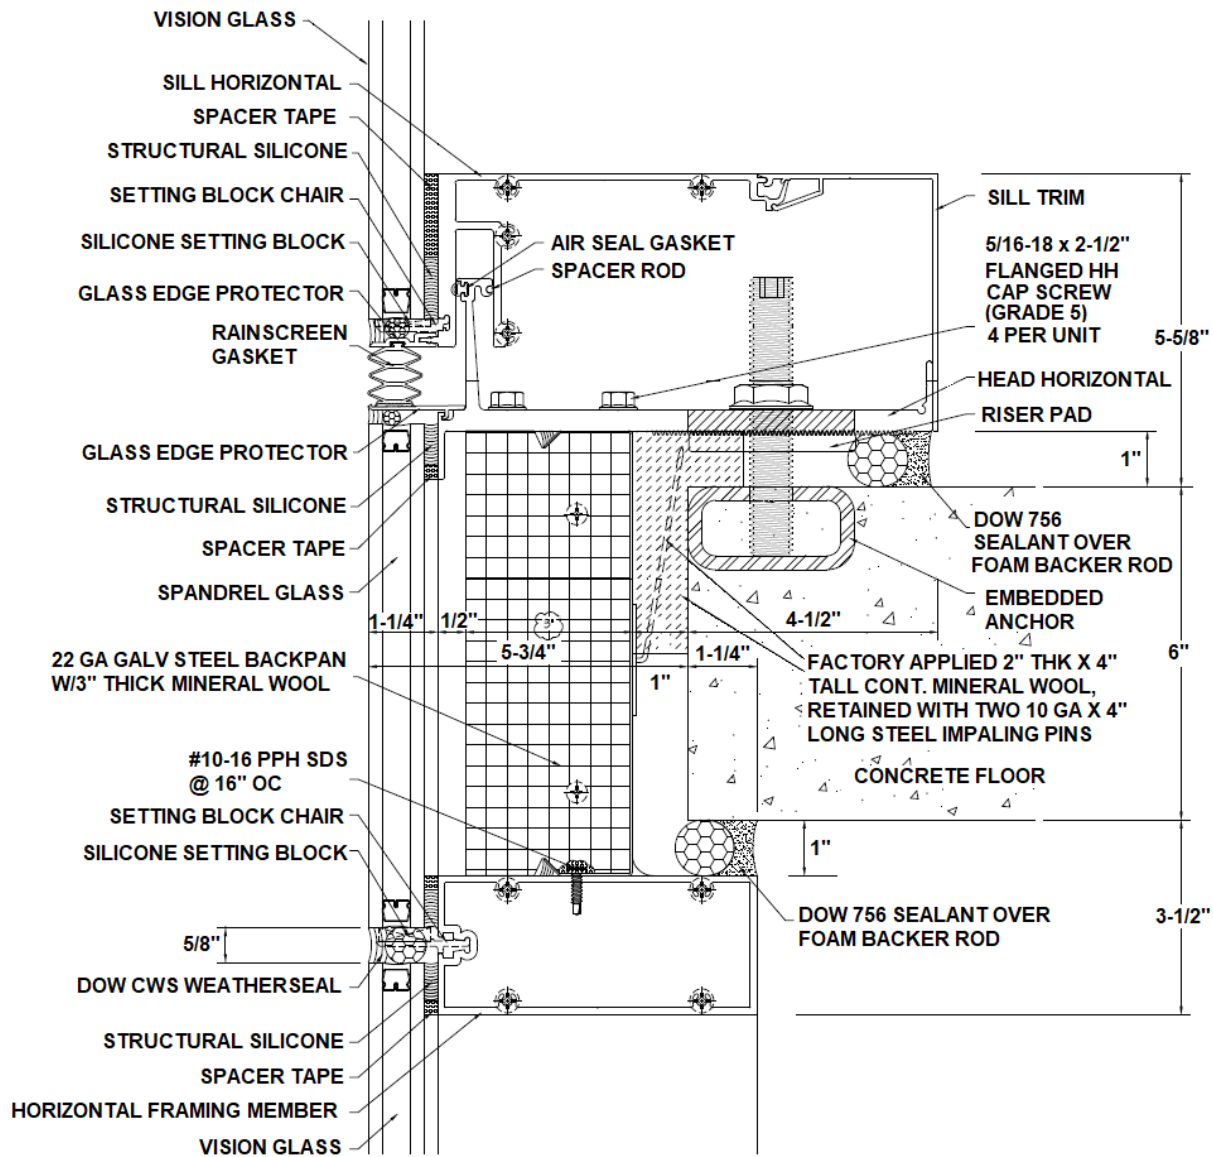

Figure 1. Talon Wall® Perimeter Fire Barrier System – Option 1
Refer to Figures 1 and 2. Follow the manufacturer's installation instructions. Install the curtain wall assembly and anchor it to the floor using the supplied embedded anchors (Item 1A); supplied minimum 3/4 in. diameter, Grade 5, threaded steel stud Talon bolts; and supplied Grade 5 steel flanged lock nuts. Use two Talon Bolts and lock nuts at each vertical mullion location, one at each side of centerline of mullion.
- A. **BACKER ROD** – Install minimum 1 in. diameter bi-cellular polyethylene foam backer rod into the 1 in. spaces formed between the floor assembly and the top and bottom horizontal framing members (see Figure 1 installation and location requirements). Recess the backer rod 3/8 in. to 1/2 in.